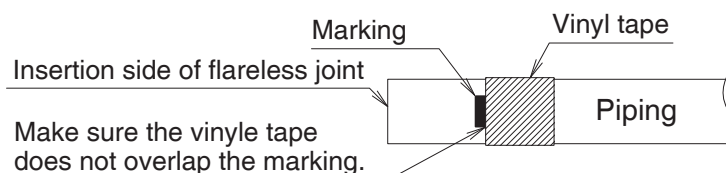

Fig. 5-3
- (4) Markings made with oil-based pen may be difficult to see in dark surroundings (such as in the ceiling). Add markers using vinyl tape, etc. as much as possible to improve visibility. (See Fig. 5-3)